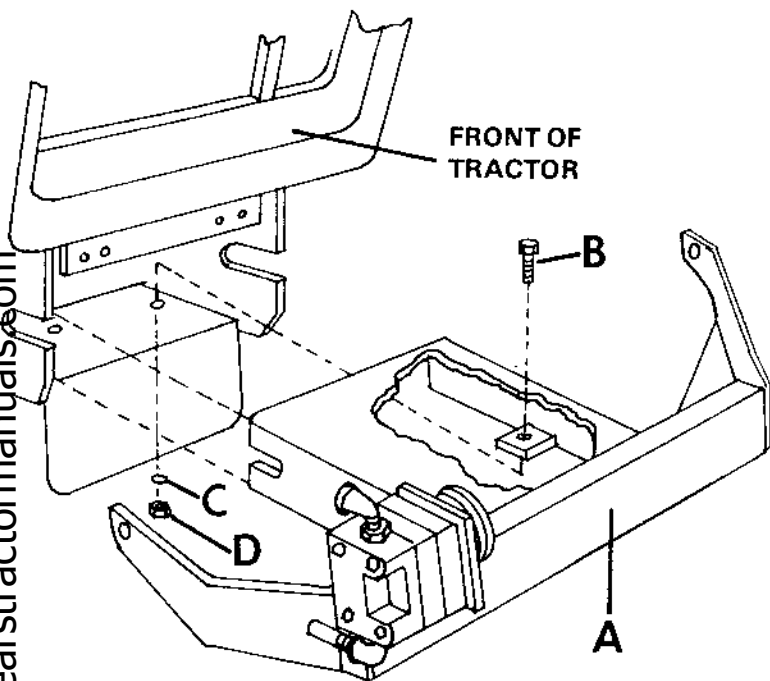

FIG. 4
For clarity, the pump mounting bracket has been drawn "opened-up" to show the mounting ears on the underside of the bracket. The bracket bolts into position on the tractor at the "ears" with two 7/16 x 1" bolts, lockwashers, and nuts. (see Fig. 4)
The slots on the leading edge of the mounting bracket slide into pins inside tractor main frame. (also see Fig. 4)
4. Refer to Fig. 4.